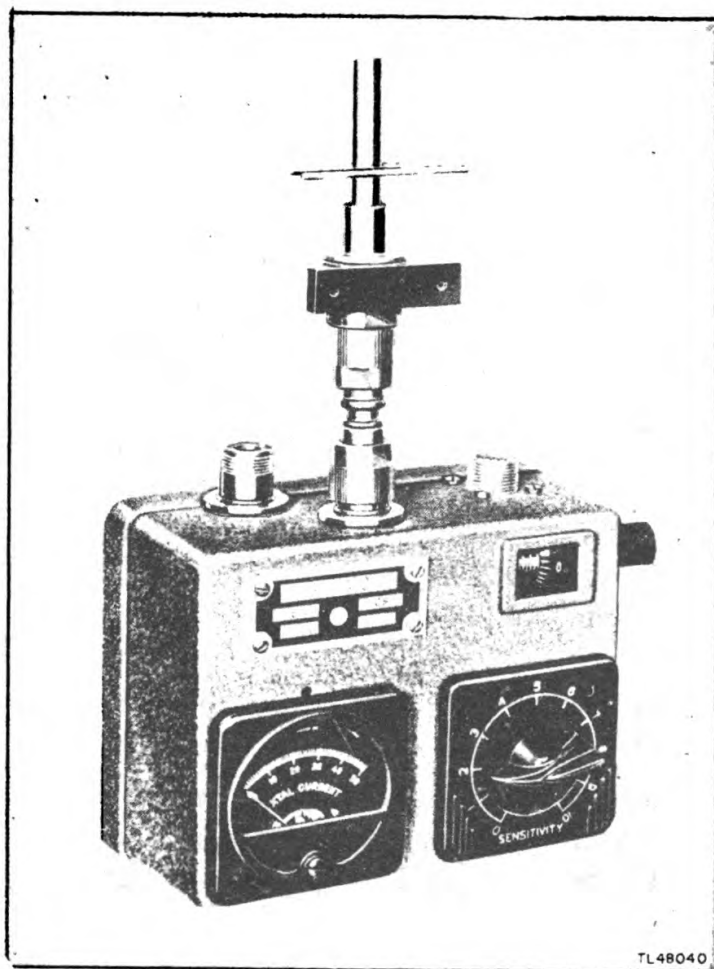

Figure 32. Antenna Assembly AS-23/AP connected to Wavemeter Test Set TS-117/GP.
35. WAVEMETER TEST SET TS-117/GP (fig. 32).